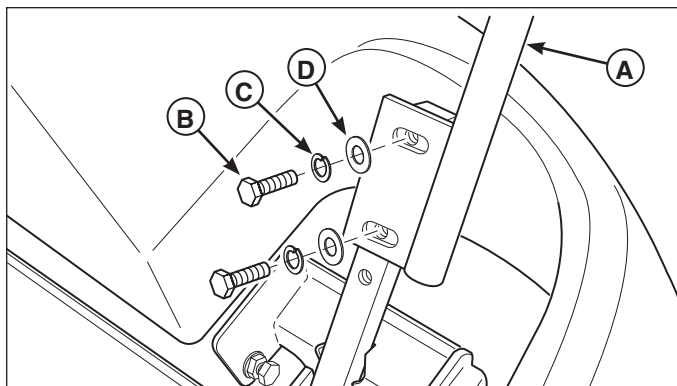

Figure 4. Control Handle Installation
2. Install the ground speed control handles (A, Figure 4) onto the control lever base using the 5/16-18 x 3/4" bolts, 5/16" lock washers and 5/16" flat washers (B, C, & D). Prior to tightening the bolts, align the handles with each other.
NOTE: There is a LEFT-HAND and a RIGHT-HAND control handle. When assembled to the base, the handle base should be pointing towards the rear as shown in Figure 4.